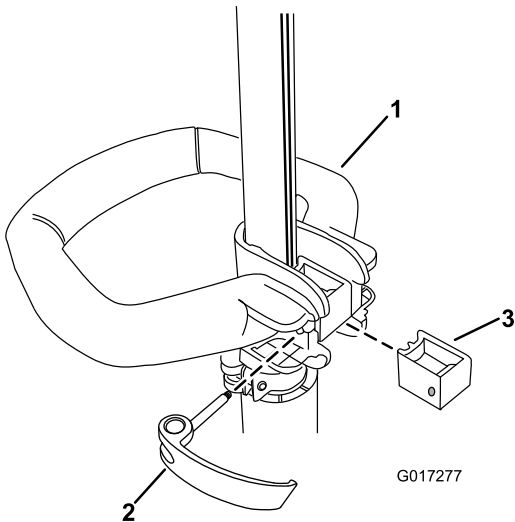

Figure 1
1. Position the auxiliary handle on the shaft of the trimmer with the smooth surface facing the operator (Figure 1).
2. Slide the brace into the auxiliary handle so that the brace rests in the groove along the shaft (Figure 1).
3. Slide the latch from the left through the handle and brace as shown and tighten the latch screw with a Phillips head screwdriver (Figure 1).